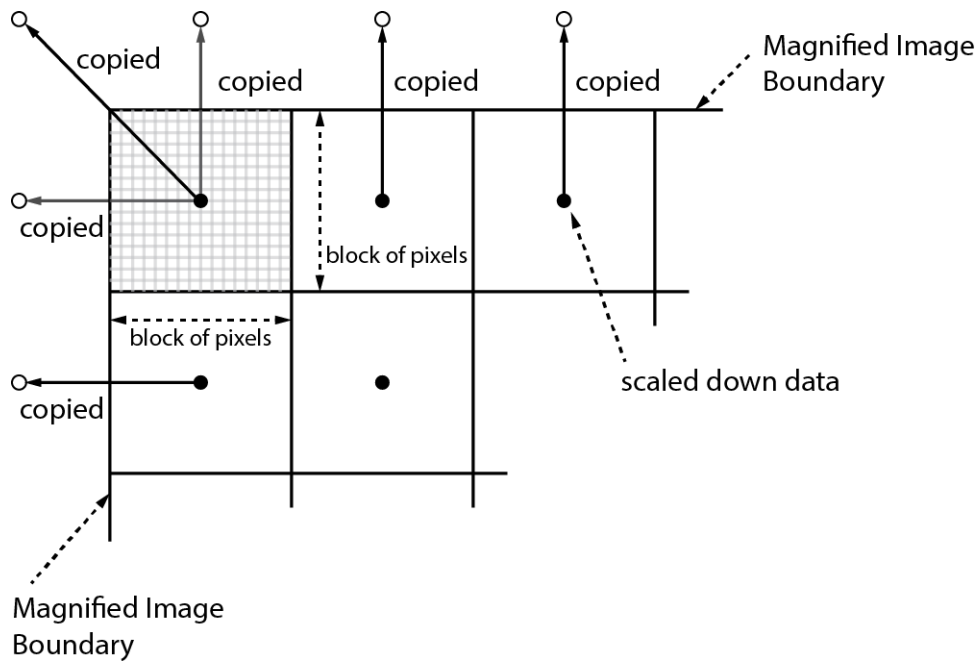

Figure 9.10 Bilinear Interpolated Magnification
3. Execute the **Flat Field Data Save** parameter to save the generated Flat Field data into the non-volatile memory. When the scaled down Flat Field data are used for correction, they are expanded and applied with a Bilinear Interpolation as shown in the Figure 9.10.